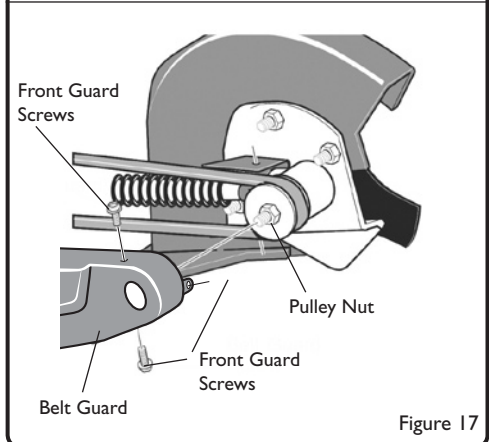

Figure 17
5. Remove the screws from the belt guard. Undo pulley nut, remove pulley washer. (See Figure 17)